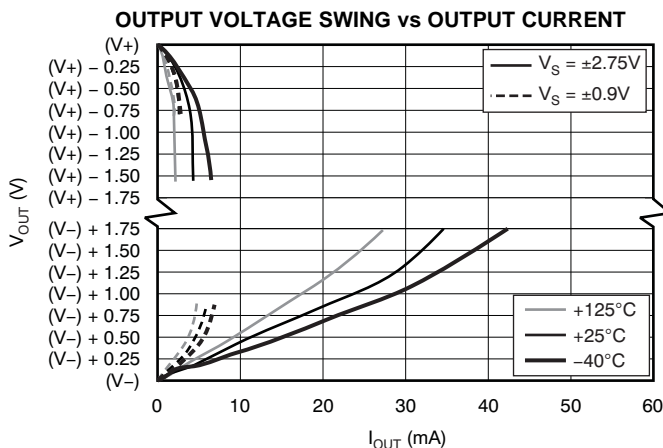

Figure 29.
(4) Does not include effects of external resistor  $R_G$ .(5) See Typical Characteristics curve, *Output Voltage Swing vs Output Current* (Figure 29).
The INA333 can be used on single power supplies of +1.8V to +5.5V. Figure 35 illustrates a basic single-supply circuit. The output REF terminal is connected to mid-supply. Zero differential input voltage demands an output voltage of mid-supply. Actual output voltage swing is limited to approximately 50mV above ground, when the load is referred to ground as shown. The typical characteristic curve *Output Voltage Swing vs Output Current* (Figure 29) shows how the output voltage swing varies with output current.